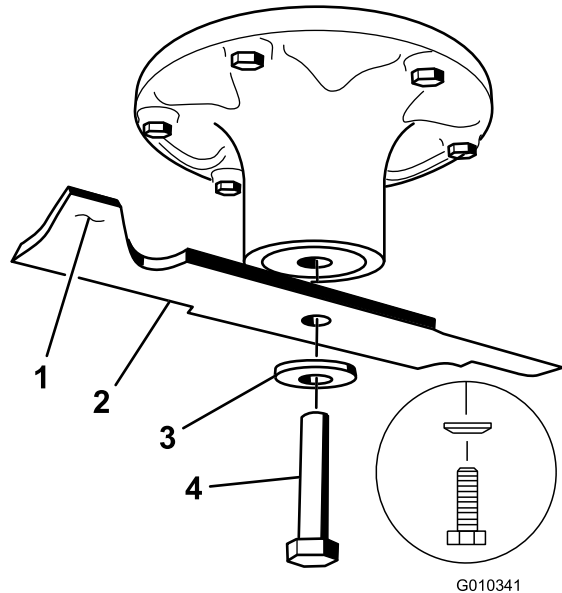

Figure 59
2. Remove the blade bolt, curved washer, and blade from the spindle shaft (Figure 59).